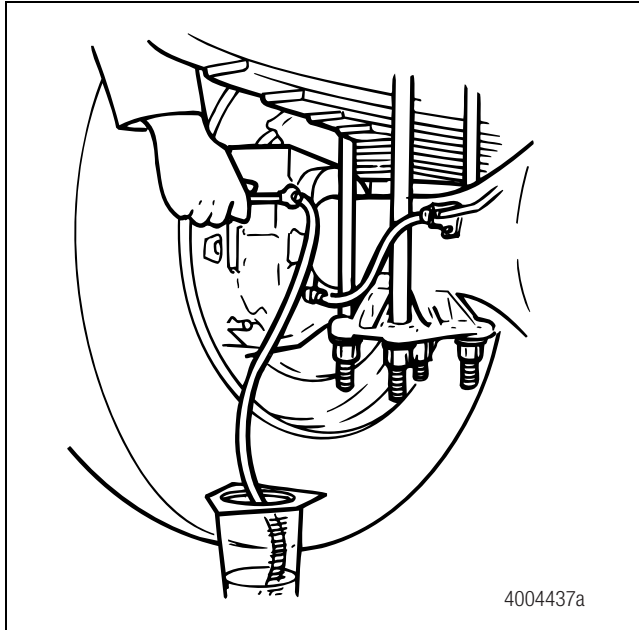

Figure 2
- C. Use a wrench to open the bleeder fitting screw. Figure 2.
- C. Use a wrench to open the bleeder fitting screw. Refer to Figure 2.